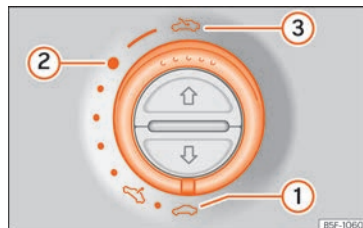

Fig. 109 On the interior roof lining: turn the switch to open and close.
- Open: turn the switch to position »» Fig. 109 ③.
- Comfort position: turn the switch to position »» Fig. 109 ②.
- Close: turn the switch to position »» Fig. 109 ①.
- The switch »» Fig. 109 should be in the “closed” position ①.